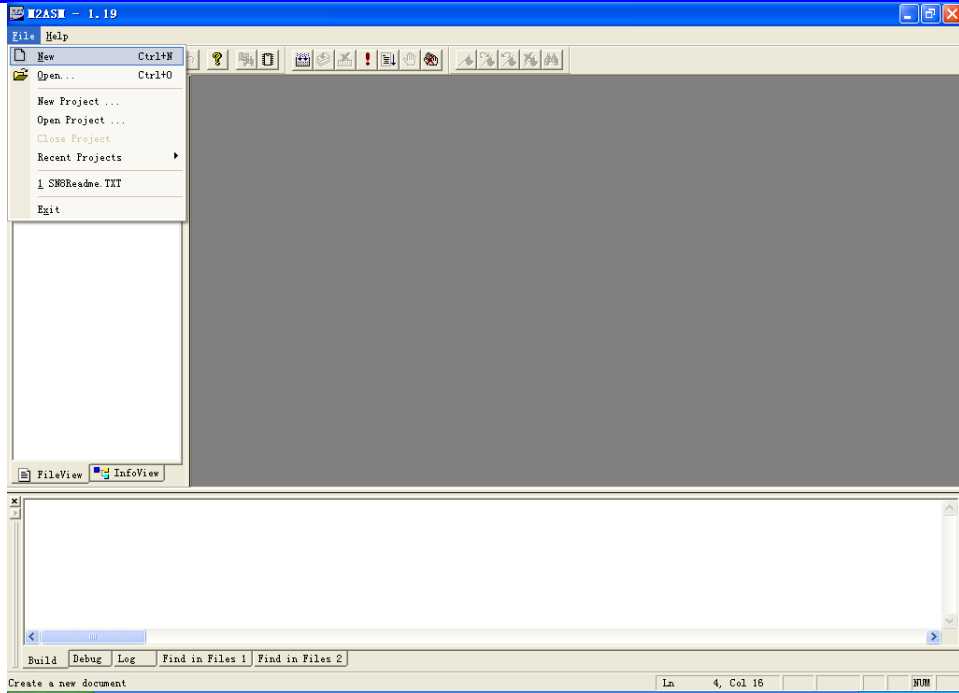
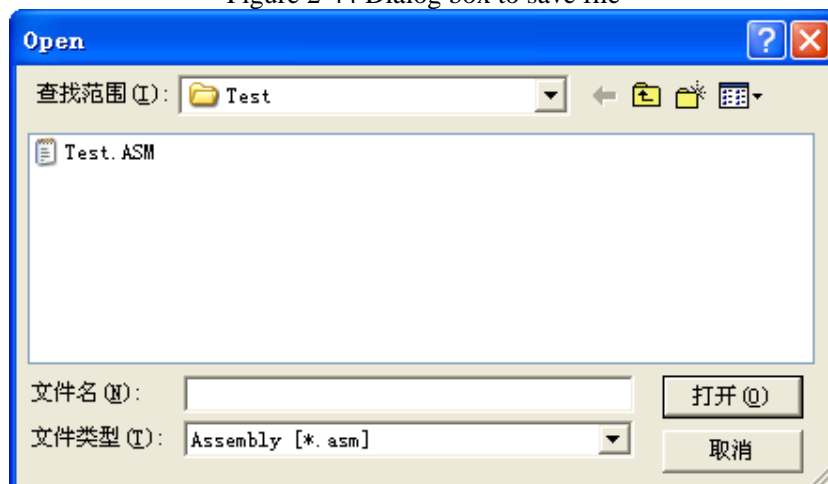

Figure 2-42 Drop-down menu of File in idle mode
Figure 2-45 Dialog box to create a New Project
If you want to build a project, at first you shall create a file to add project, click the button of “New” on toolbar or “File” on menu bar to pop up a menu, as shown in Figure 2-42, select the option of “New”, to successfully create a blank document, and the default file name is SONIX1, and it will create multiple files with multiple use of “New”, and the file names are as follows: SONIX2, SONIX3 and so on.
- Use “File” menu in Figure 2-42 again, select the option of “New Project”, the File Open dialog box will pop up, as shown in Figure 2-45, select the newly created Test file, click to open, and thus a project is successfully created. Project name is the same with the name of the just opened file, and both of the names are Test, meanwhile Test.ASM file is automatically included in the project file. The path to open current project and the name of current file are displayed in Title bar.